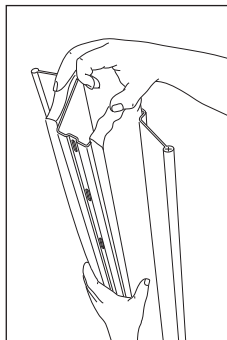

Fig 5 Fit foam rubber strip to each side of batten section
- 7 Insert the closed cell foam rubber strip (supplied in fixing kit), into recesses on each side of PVCu extruded dry hip batten section (Fig 5).